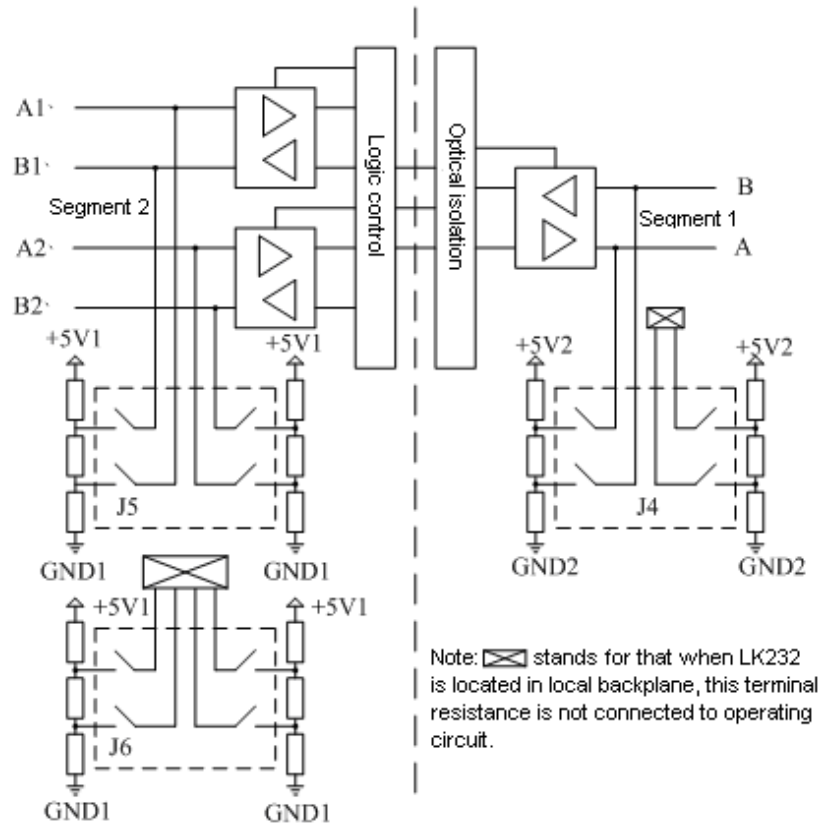

Figure 4.8: Bus interconnection when LK232 is installed on the local backplane
- Sometimes a bus topology does not meet the needs of the users very well when sites are separated. An LK232 module can select one of the two redundant DP signals that work normally and output one channel of DP signal after regulation and amplification, so the DP signal is divided into two branches to achieve star connections, which changes the bus topology, as shown in Figure 4.8.